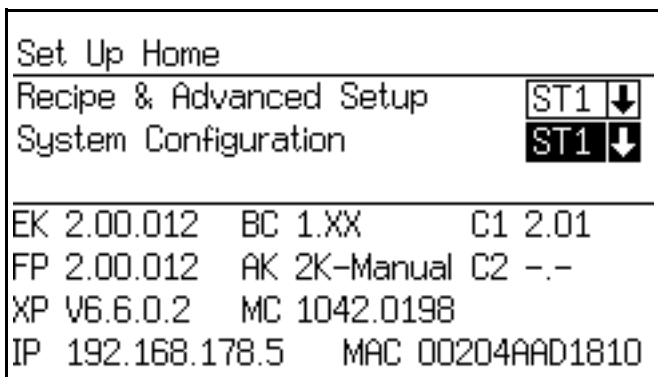

FIG. 53. Set Up Home Screen
1. On the EasyKey press the Setup  key to access the Set Up Home screen. Select "System Configuration" to access the configuration screens. FIG. 53.